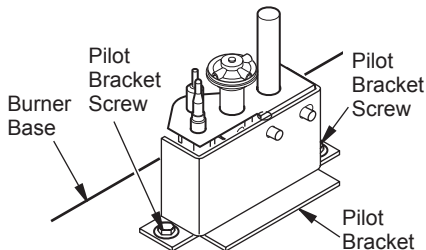

Figure 9 - Loosen Pilot Bracket Screws
2. Burner is attached to burner base. Remove screws to detach burner from base. Loosen screw on pilot bracket attached to burner base (see Figure 9). This is to prevent pilot from being damaged by burner during installation.